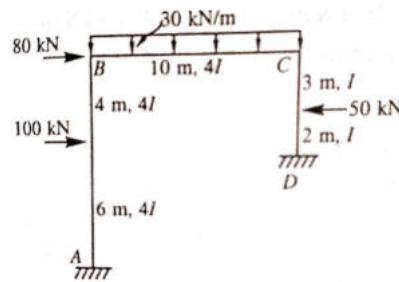

Figure 7.
9. Analyze the portal frame shown in figure 7, by using stiffness [14M]